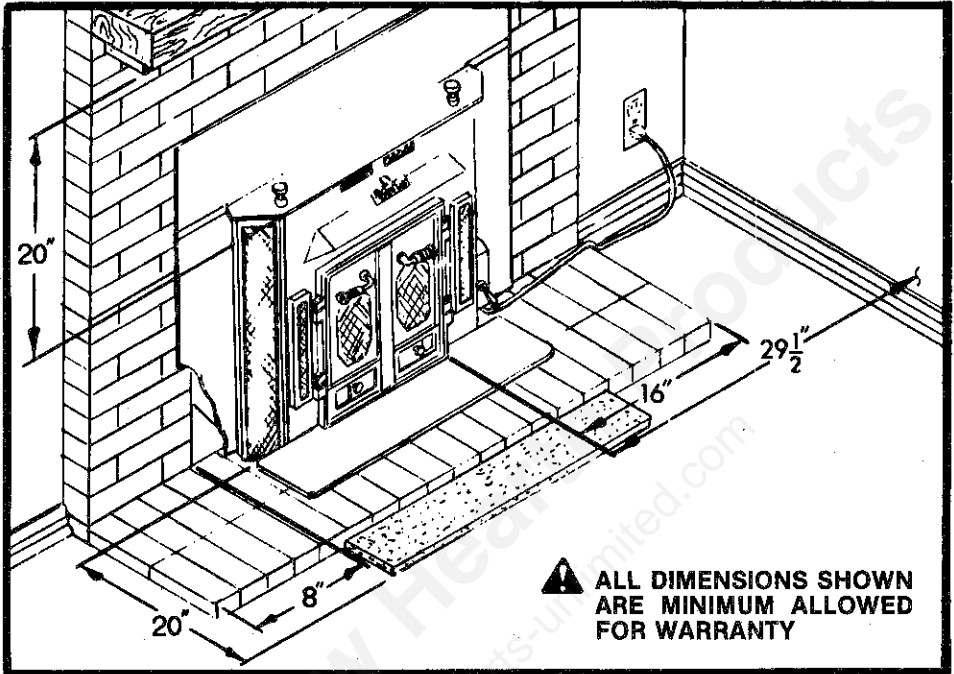

FIGURE 1
3. There must be a minimum of 8" between the side of the masonry fireplace opening and any combustible materials, or 16" between the **BUCK STOVE** firebox opening and any combustible materials. If there is not 20" from the front of the **BUCK STOVE** firebox opening and the front of the masonry hearth, a floor protector must be used in front of the hearth to protect combustible materials. The floor protector is to be of non-combustible, inorganic material equal to 3/8" thick millboard having a thermal conductivity of $K = 0.84 \text{ BTU/F}^2\text{H}^{\circ}\text{F inches}$ and must measure 38" wide. The minimum clearances for the fireplace model are shown in Figure 1.